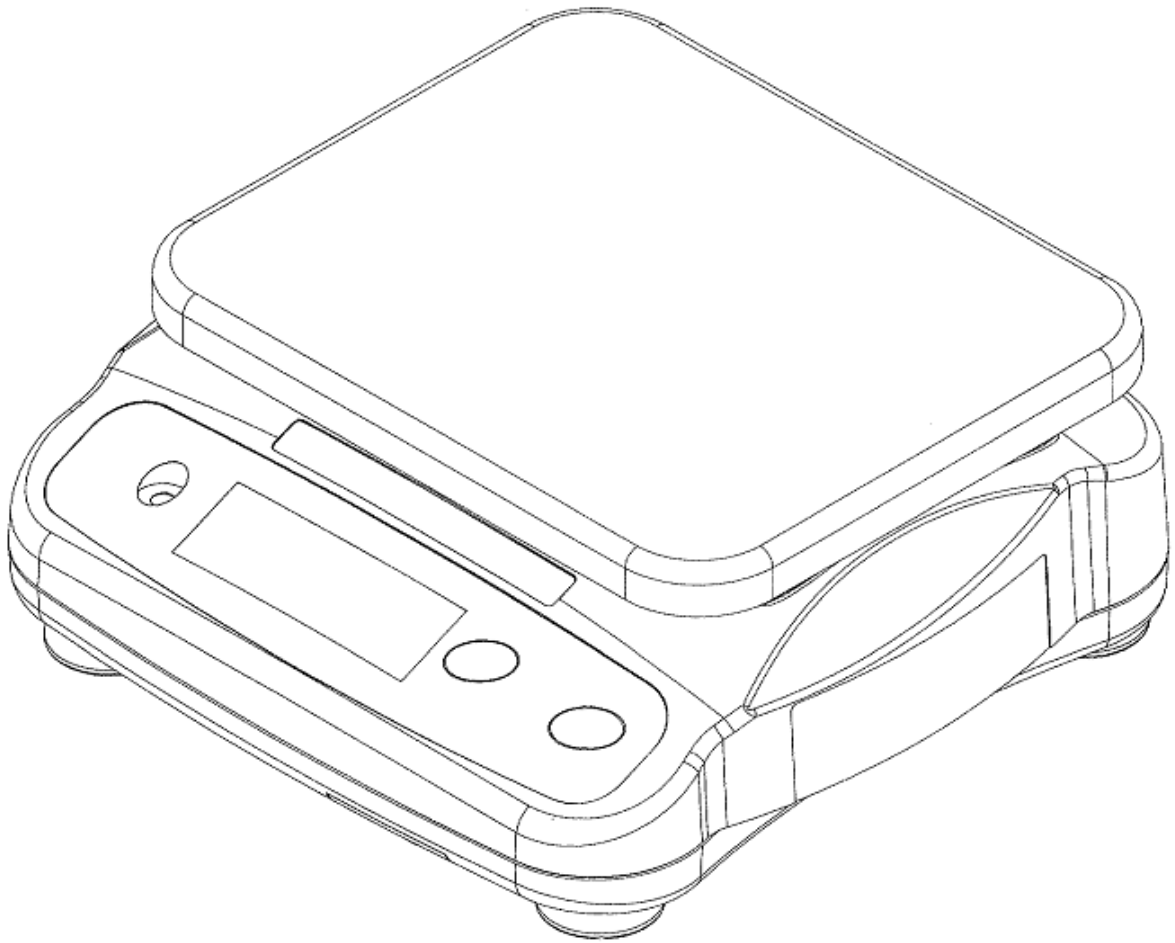

Figure 1 SJ-HS NAWI
The A&D SJ-HS series of instruments are mains or battery powered Class III or IIII, Non-Automatic Weighing Instruments, fitted with a combined semi-automatic zero setting and subtractive tare balancing device, and a semi-automatic calibration and gravity compensation device (see Figure 1).
- Figure 1 SJ-HS NAWI